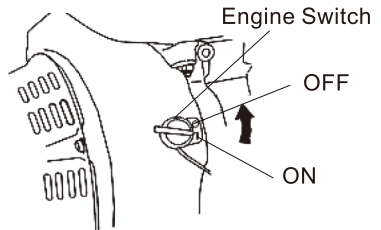

Fig.14
2). Turn the engine switch to the OFF position. (Fig. 14)